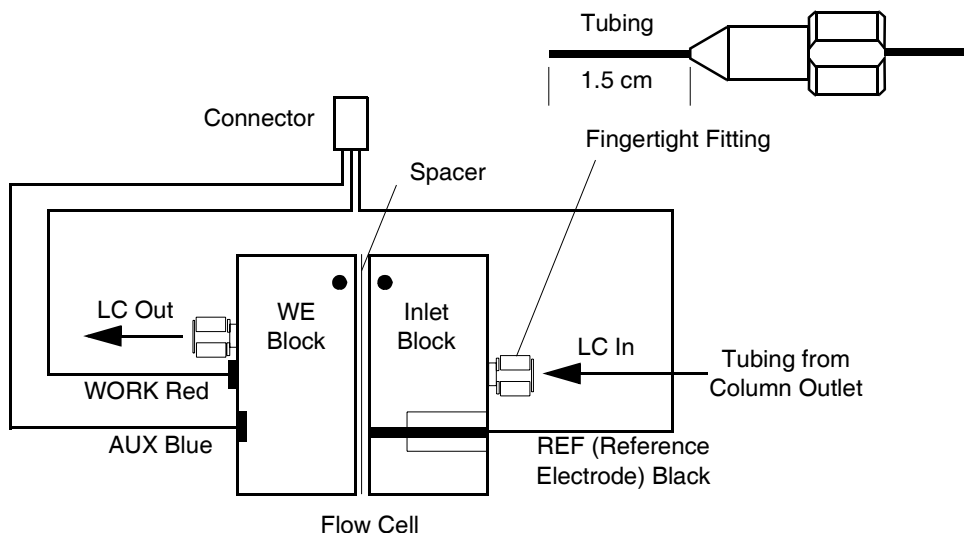

Figure 2-9 Connecting Tubing to the Flow Cell
1. Connect the column outlet to the flow cell inlet using small-bore tubing (0.3 mm ID). Use one fingertight fitting to install tubing in the flow cell inlet (Figure 2-9).